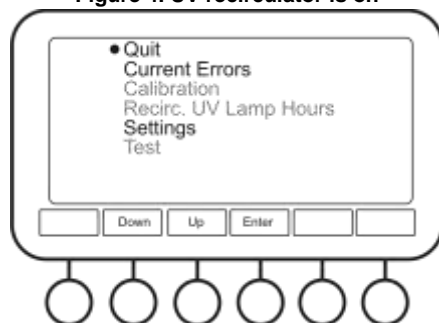

Figure 6. Service menu
- 5.9.3 **Service** (fig. 6). This submenu has available options **Current Errors** and **Settings**.